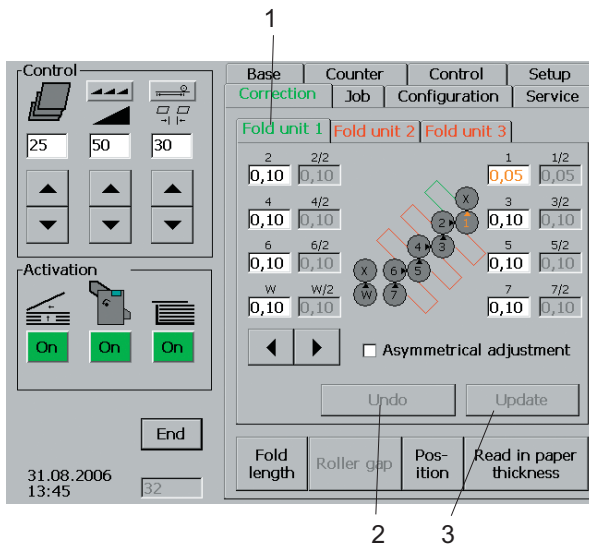

Fig. 37 Correction of roller gap
1. Select the fold unit by touching the appropriate tab (Fig. 37/1) (script colour changes).
You can cancel incorrect entries by touching the *Undo* key (Fig. 37/2).
4. Touch the *Update* key (Fig. 37/3) when entering the corrections is complete. This command activates the automatic adjustment of all corrections that have been entered. The *Update* key can be touched after each individual correction or after changing all corrections.